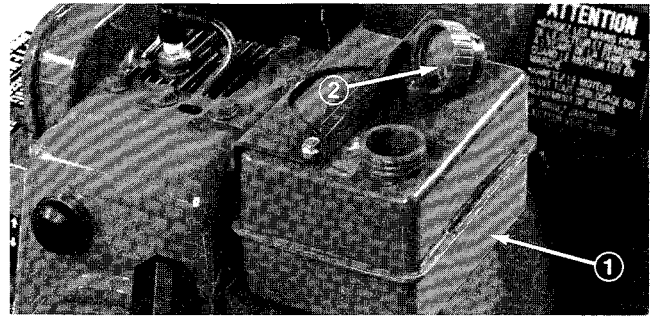

Figure 15
1. Clean area around the fuel tank cap. Remove cap from fuel tank and fill tank to within 1/2 inch (13 mm) from the top with gasoline. Re-install fuel tank cap (Fig. 15).